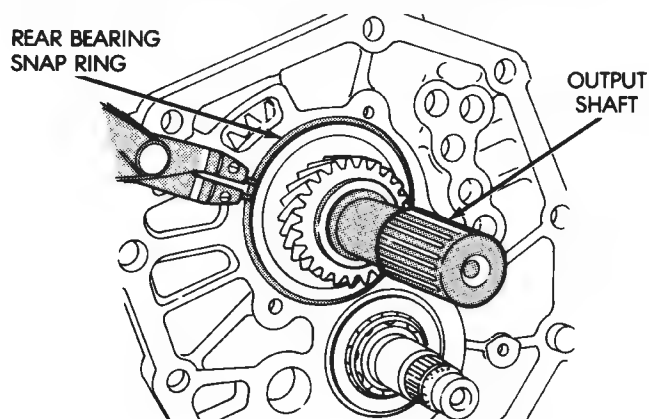

Fig. 54 Removing Bearing Snap Rings
(1) Remove output shaft rear bearing snap ring (Fig. 54).
(2) Remove cluster gear rear bearing snap ring (Fig. 54).